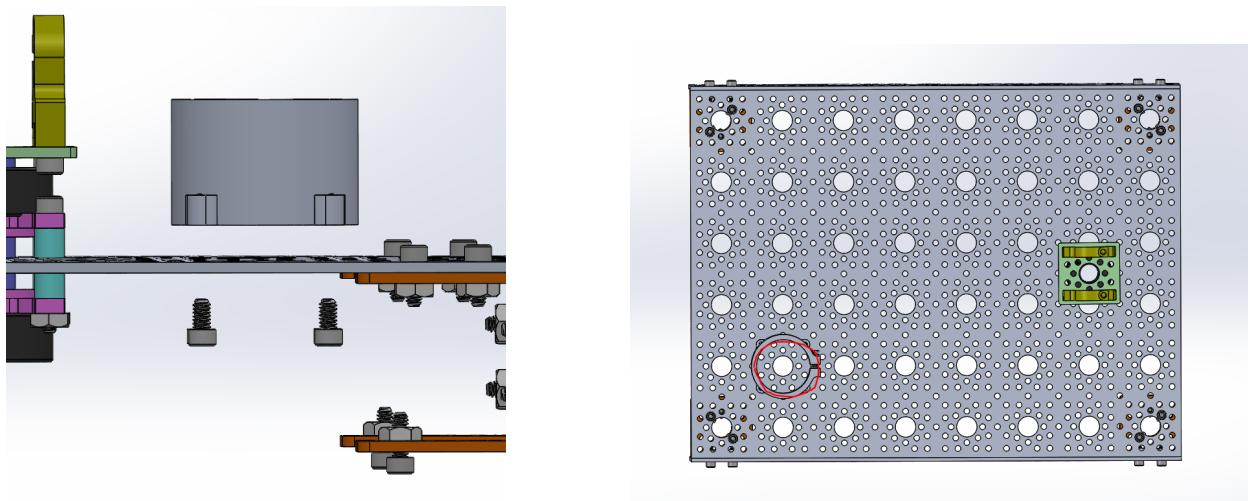

Figure 5: Attach the PVC clamp to top plate
**3. Attach the PVC clamping hub:** Attach the 1-inch PVC bore clamping hub **S24** to the top plate of the body using screws **B1** wherever you would like your rover's "neck" to protrude from the body. We suggest using the location shown in Figure 5.